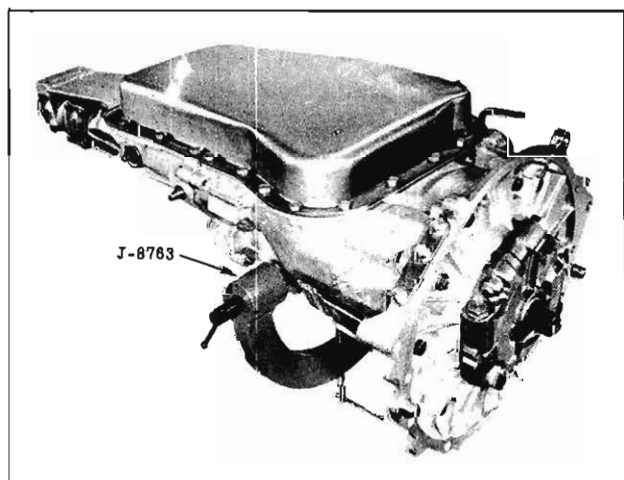

Fig. 6-19 Transmission Holding Fixture
2. Place transmission and Holding Fixture into Bench Adaptor J-6115-A, then rotate transmission so that oil pan is up. (Fig. 6-19)